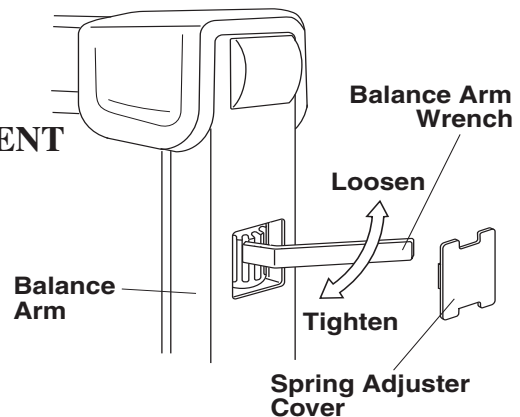

**Fig.4-1** Horizontal Arm Adjustment
1. Incorrect leveling of the wall plate and wall bracket can cause arm drift. First, check leveling with horizontal arm in position **#1**. (**Fig.4-1**) If not correct, bracket must be adjusted by placing shims behind the wall plate.
2. Check leveling in position **#2**. If not correct, adjust Horizontal Arm as follows : (**Fig.4-1**)